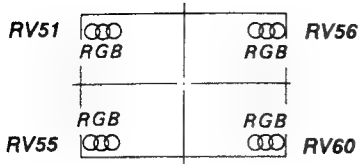

Fig. 1-24.
4. Adjust RV51, RV55 and RV56, RV60 on the DC board to coincide with the R, G and B dots as shown in Fig. 1-24.